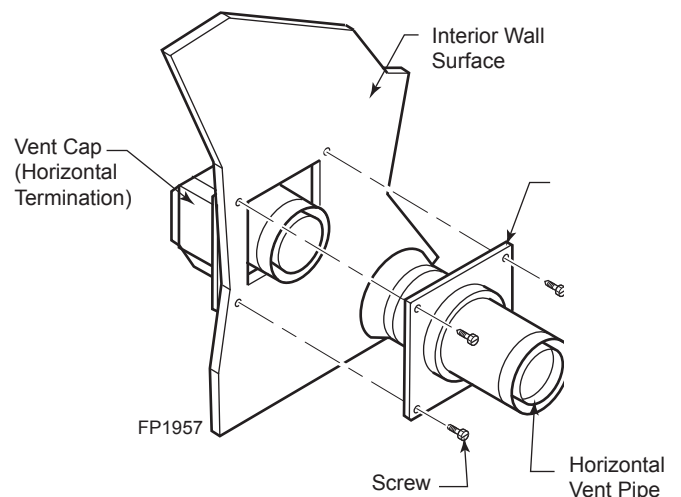

Figure 20 - Connecting Vent Cap with Horizontal Vent Pipe
5. Slide fire stop over the vent pipe before connecting horizontal run to vent cap. *Figure 20*
7. Slide fire stop against the interior wall surface and attach with screws. *Figure 20*